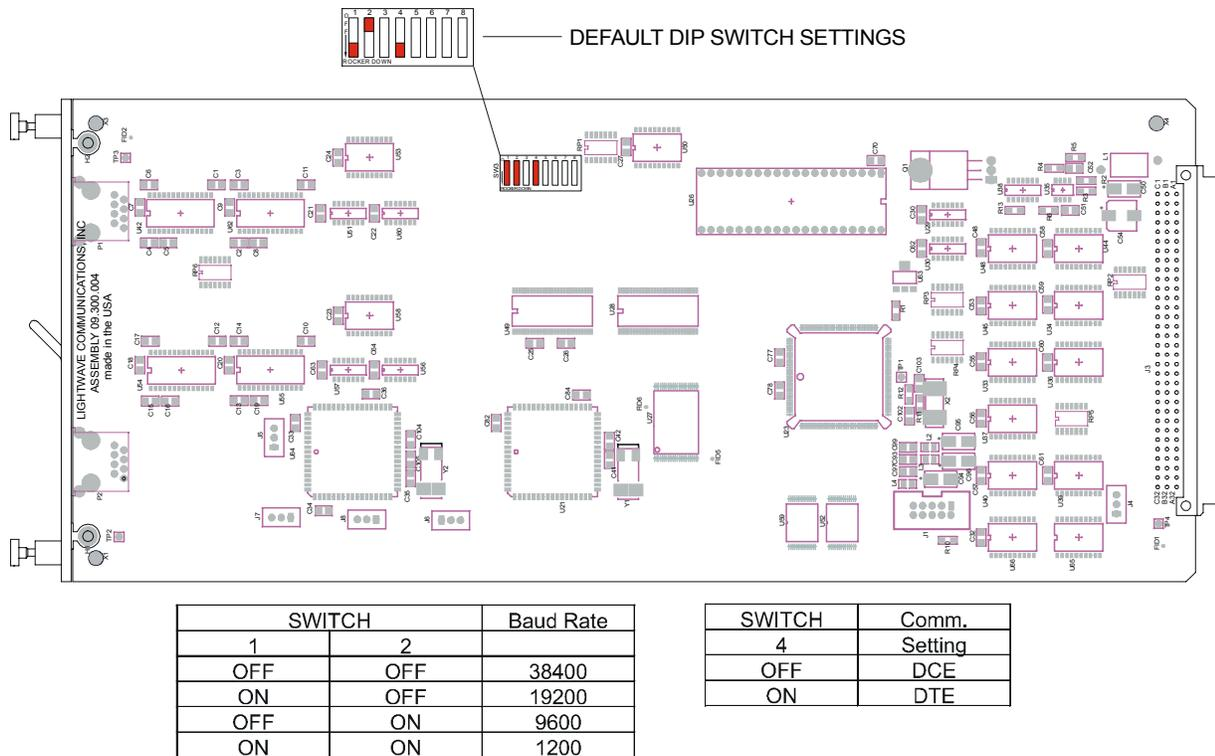

Fig. 2 Control Card Layout with DIP Switch Settings.
The factory default communications settings for the system administrator port are 9600 baud, one stop bit, no parity, eight data bits, and DCE (9600 8N1 DCE). The settings can be changed using the DIP switches shown in Figure 2.
2. Ensure that the communications settings are correct. The factory defaults for the control card, which may only be changed by a hardware DIP switch, are 9600 baud, 8 data bits, 1 stop bit, and no parity (9600 8N1). If in doubt as to the current communication settings on the control card, check the DIP switches and refer to Figure 2, Control Card Layout with DIP Switch Settings.